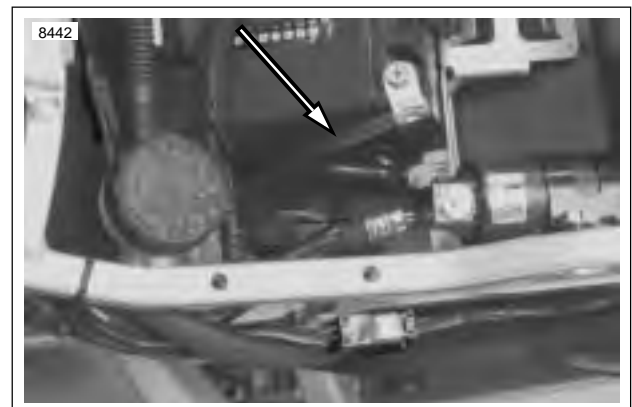

Figure 7-41. Negative Battery Cable
3. Connect tester leads to battery posts and place induction pickup over negative (black) cable. See Figure 7-41.
Positive battery cable runs from starter post to positive battery terminal. Negative battery cable runs from frame to negative battery terminal. See Figure 7-41.